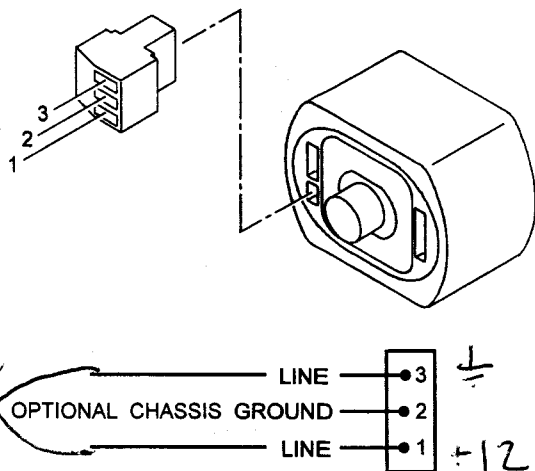

Figure 3. Wiring the Three-Pin Power Connector
1. Wire the three-pin power connector, provided with the IntelliVu, to the user-furnished power source. Orient the connector wire-lock screws to face away from center, as shown in Figure 3.
3. Insert the wired connector into the IntelliVu rear panel. (Refer to Figure 3.)